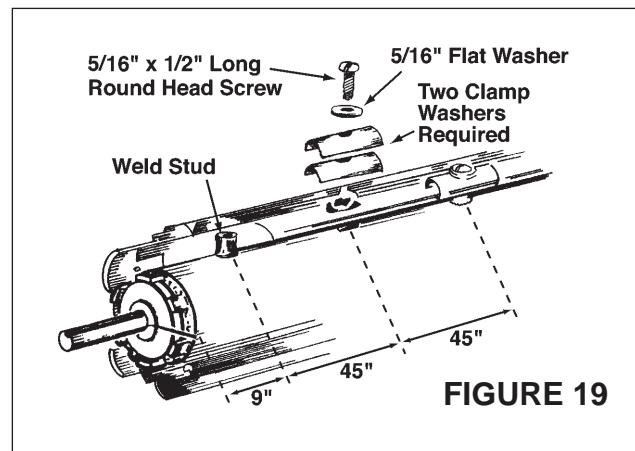

FIGURE 19
- If the barrel has studs, the top slat will have slots to attach to barrel. Hook curtain over studs and fasten with 5/16" round head screws and washers provided. See Figure 19.